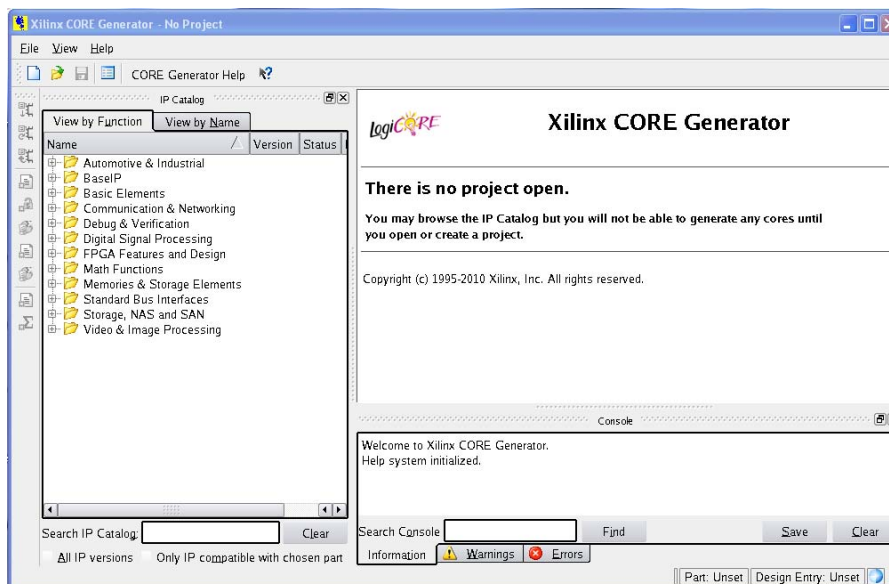

Figure 2-1: CORE Generator Window
2. After creating a new Virtex®-5 LXT/SXT family project, or opening an existing one, the IP core functional categories appear at the left side of the window, as shown in Figure 2-1.